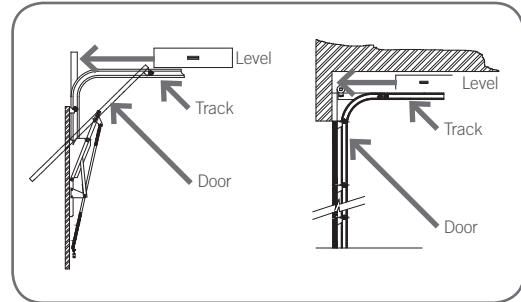

Fig. 13
- Using a level, transfer this height to the wall above the door (Fig. 13) and mark a line 60mm above it.